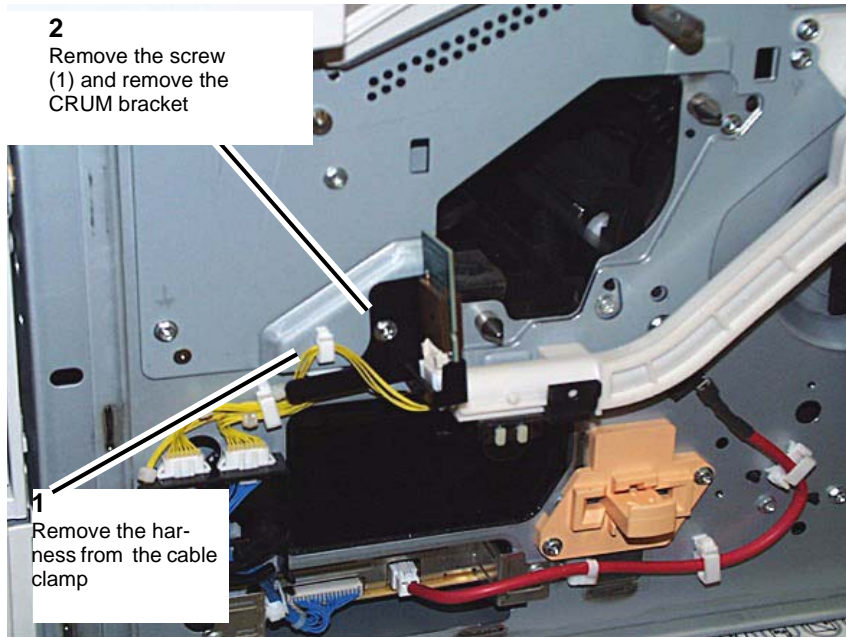

Figure 2 Removing the CRUM Bracket
6. Remove the Xerographic Drum CRUM Bracket. (Figure 2)